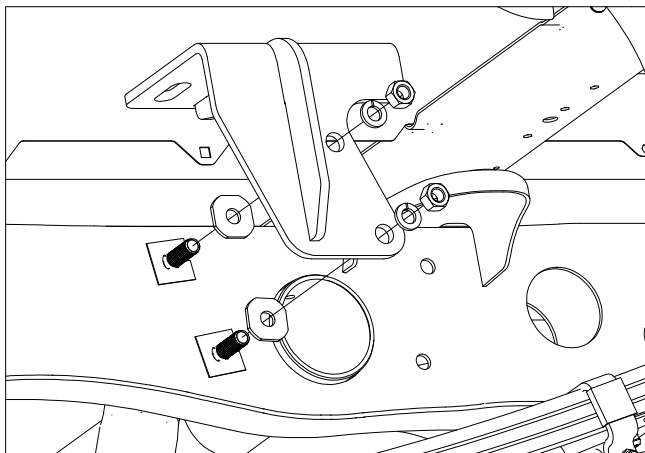

Figure B7: View looking into driver side wheel well.
- 6. Install the rear side plates.** Locate the two rear side plates, four 1/2" lock washers, four 1/2" finish nuts, and four frame spacers. If your truck does not have overload brackets, install frame spacers on each carriage bolt. If overload brackets are present, install the side plates over the brackets and discard the frame spacers. Pass the top flange of the rear side plates over the frame and then pass the holes in the side plates over the carriage bolts. Secure the side plates with a 1/2" lock washer and nut, see Figure B7. Hand tighten hardware only at this time.